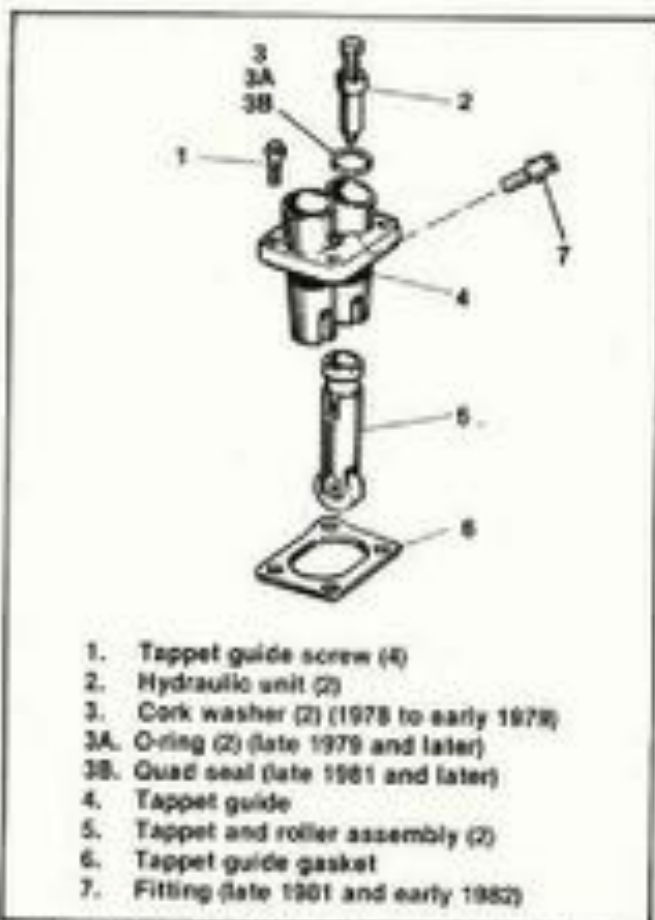

Figure 3-31. Tappet Assembly — Exploded View
### Disassembling Tappets (Figure 3-31)
#### Assembling Tappets (Figure 3-31)
1. See Figure 3-31, 3-32. Slip tappets (5) into guide (4) so flat surfaces on tappets are toward center of guide as shown. If flat surfaces with holes are not toward center of guide, engine oil will not feed across and exhaust hydraulic unit cannot fill with oil.